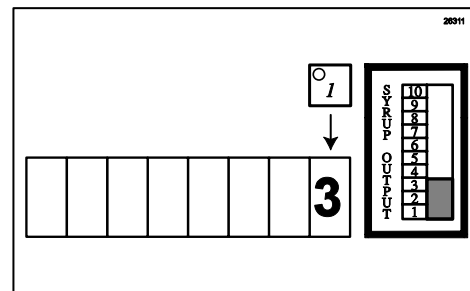

Figure 168
2. Touch the #1 key on the keypad and read the SYRUP OUTPUT level bar graph. Write down the level value 1-0 as your first number on the right. 10 on the bar graph represents 0. (See Figure 168.)